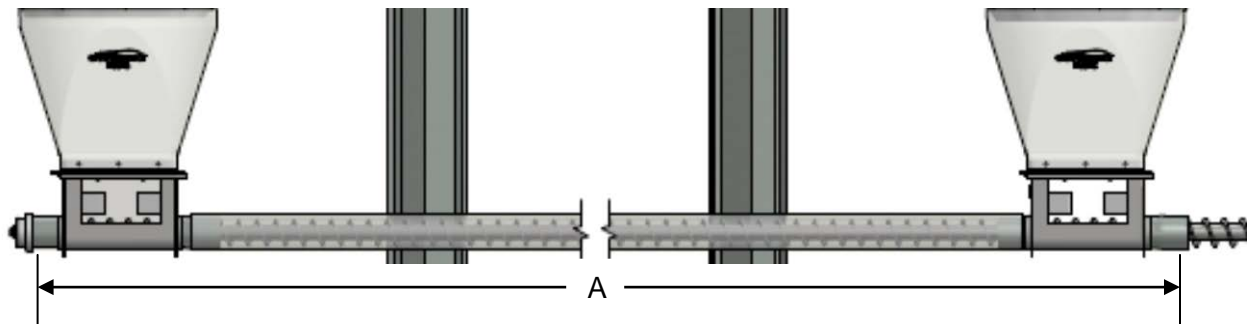

Figure 1
1. Measure distance between bins (A) as shown below in Figure 1.